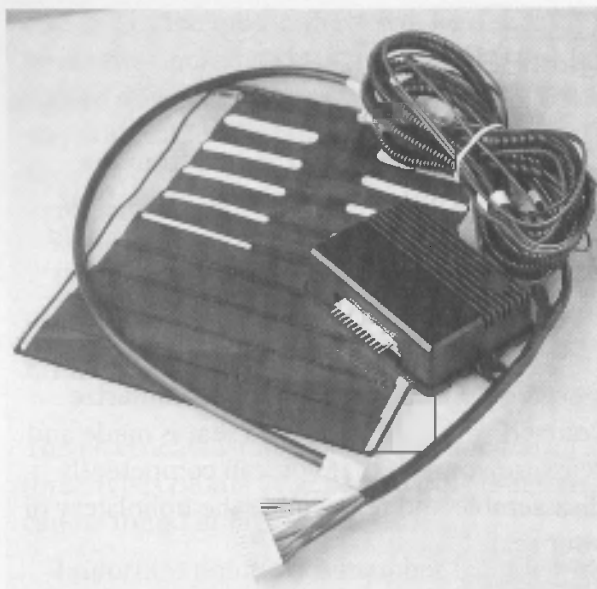

Figure 2-12 Seat heater kit (Courtesy Rostra Precision Controls)
*All of the items with an asterisk are included in the kit from Rostra Precision Controls that you see in Figure 2-12.